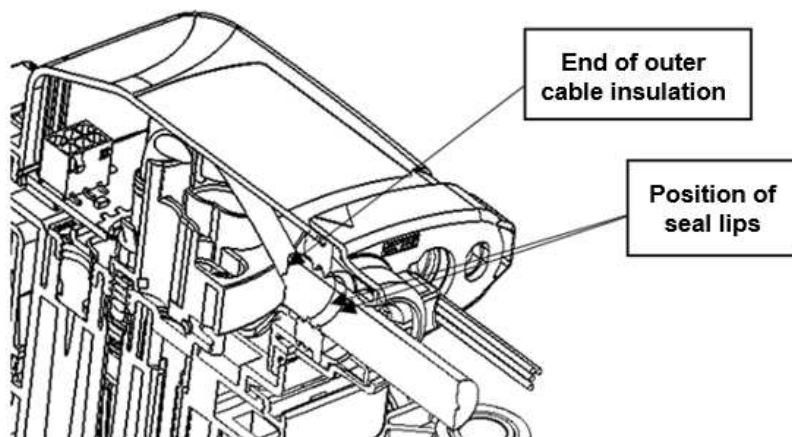

Figure 29
**ATTENTION:** Ensure that the AC cable is well positioned in the FAMILY SEAL, that all seal lips are safely placed on the outer isolation of the cables. (Figure 29)